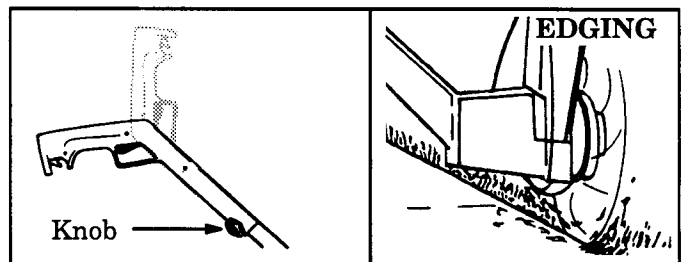

Figure 15
5. **EDGING** – Figure 15. To adjust your unit for edging, loosen the knob on the trigger handle, pull the handle to full length, turn the trigger handle counterclockwise 180°, and retighten the knob. Then, loosen the wing nut on the assist handle, turn the assist handle 180°, and retighten the wing nut. Hold the trigger handle in the normal operating position (Figure 9). The motor housing will be positioned as shown in Figure 15. For best results, hold the trimmer to one side and walk parallel to the area to be edged.